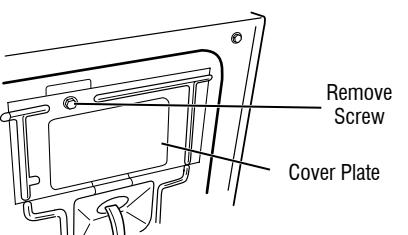

Figure 3 - Remove the cover plate
2. Remove the cover plate from the top right corner of the back of the dryer. See figure 3.